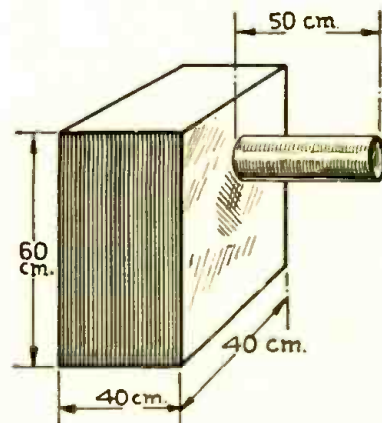
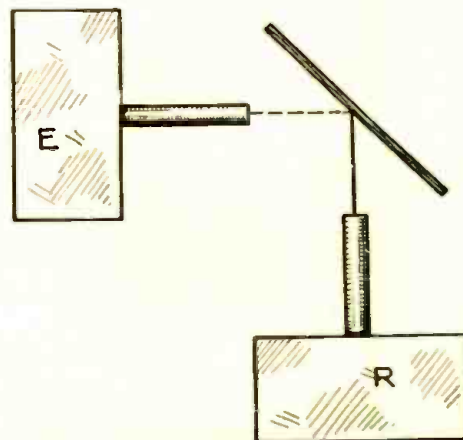

Fig. 4. Transmitter and receiver are enclosed in boxes like these.
Fig. 5. A metal plate reflects the transmitter wave to receiver "R."
**T**HE transmitter and the receiver are enclosed in carefully covered wooden boxes which are identical (Fig. 4). One side of each box is pierced by a hole from 10 to 15 centimeters in diameter, upon which is fitted a tube of the same diameter (of the stovepipe variety) made of copper or aluminum. The length of the tube is about 50 centimeters. (2.54 cm.—1 inch.) The sending and receiving sets are placed in their respective boxes in such a way that one can see the little antenna by looking in through the tube. Thus we get a decidedly cylindrical pencil of waves, coming from the box of transmitter E. If the axes of the two tubes do not coincide, receiver R will not be affected by transmitter E. (See Fig. 5.)
Having placed our two boxes E and R in such a way that the axes of the cylinders situated in the same plane, form an angle of about 90 degrees, we perceive the absolute silence of the loud speaker. (See Fig. 5.) If we take a metal plate, for example a sheet of aluminum 60 centimeters square, placed at the point where the axes of the cylinders meet, we observe that the sound reappears with its former intensity for a position of the plate such that its perpendicular is the bisector of the angle of the two axes. (Laws of reflection.)